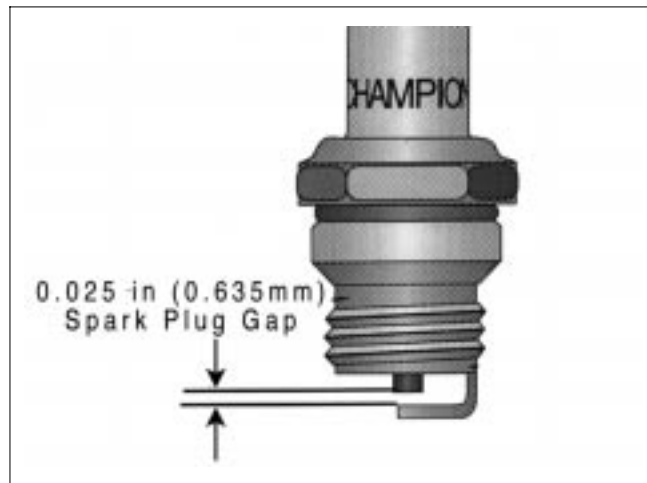

Figure 1-11. Spark Plug Gap. 2.6081.011
4. Check the spark plug gap using a wire feeler gauge. Set the gap to 0.025 inch (0.635 mm) (Figure 1-11).